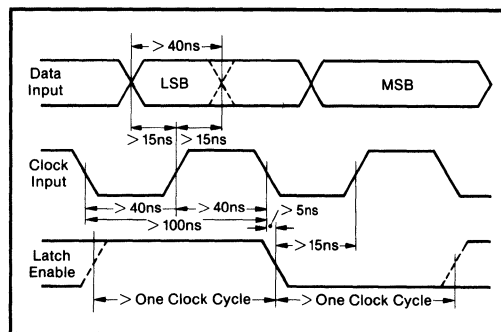
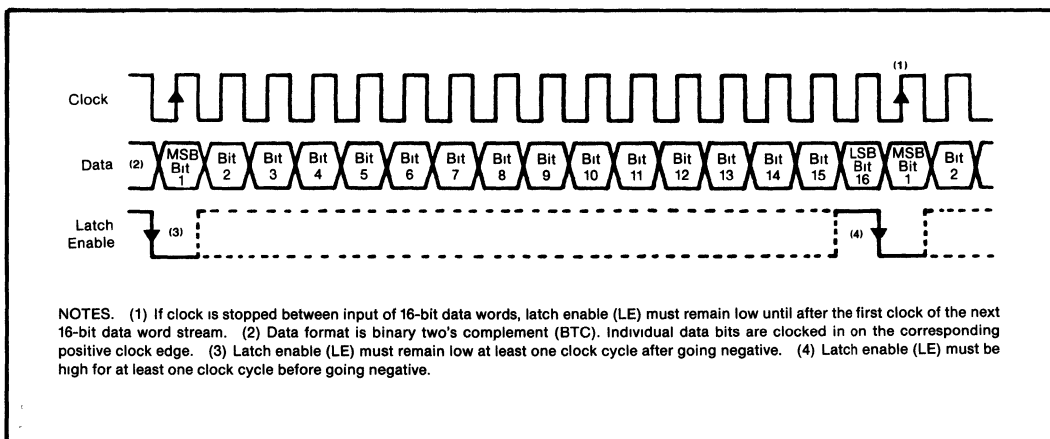

FIGURE 8. Input Timing Relationships.
FIGURE 7. Input Timing Diagram.
Figures 7 and 8 refer to the input timing required to interface the inputs of PCM56P to a serial input data stream. Serial data is accepted in Binary Twos Complement (BTC) with the MSB being loaded first. Data is clocked in on positive going clock (CLK) edges and is latched into the DAC input register on negative going latch enable (LE) edges.
Figure 7 refers to the general input format required for the PCM56P. Figure 8 shows the specific relationships between the various signals and their timing constraints.